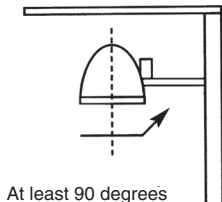

Fig. 3B
**Warning:** This light must NOT be directed at flammable surfaces (Fig. 3B,C).